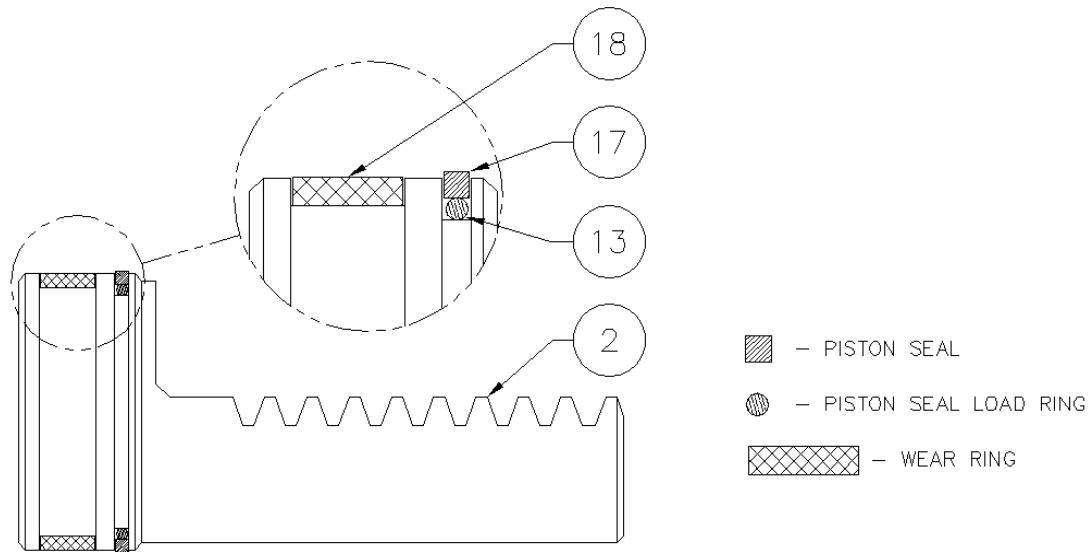

figure A-1
1. Install the piston seal load ring (13) (fig. A-1) in the small groove on the head of the actuator rack (2). Place the “square” piston seal (17) over the load ring (13) in the same small groove (a small “*blunt*” flathead screwdriver may be used, taking care not to scratch or damage the seal). Install the wear ring (18) in the large groove on the head of the rack. Using a ring compressor, firmly seat the rings on the rack before setting it aside, this will help to reverse the effects of any stretching of the rings that occurred during installation. Repeat this procedure for the other rack.